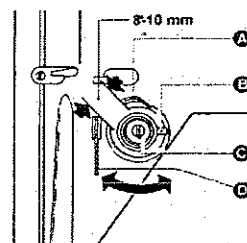

Fig. 14
Adjusting the thread take-up spring stroke: (Fig. 14) loosen the set screw (B) turn the stud (C) clockwise to increase the stroke or turn stud (C) counter clockwise to decrease the stroke. After making the adjustment, tighten set screw (B).